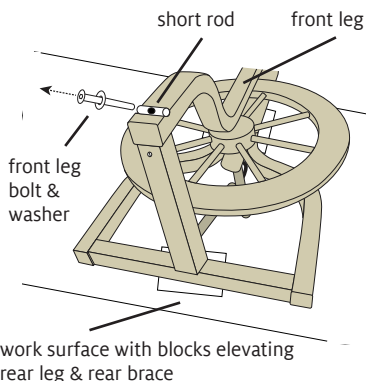

FIGURE 4: REMOVE HARDWARE
**6.** Using the 4 mm hex wrench, remove the front leg bolt and washer attaching the front leg to the cross brace (Figure 4). Leave the short rod in place on the front leg.